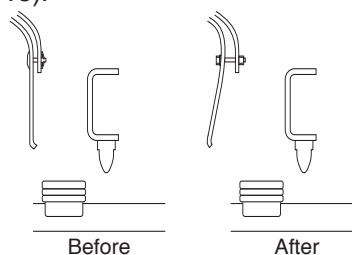

fig. 18
6. Keep at least 6" of clearance between the air line and heat sources, such as the exhaust pipes, muffler, or catalytic converter. Avoid sharp bends and edges. Leave at least 2" of slack when securing the air lines to allow for any movement that might pull on the air line (fig. 18).
1. If this installation was on a late model 4WD Dodge truck, it is now necessary to reinstall the inner fenderwell liner using the original fasteners and provided spacers to allow for air spring clearance (fig. 18).